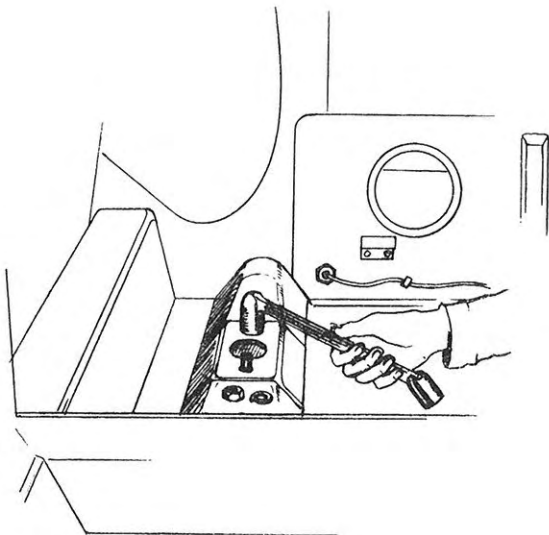

Fig. 28. Side link body attachment
10. Disconnect side link attachment from body. The nuts are accessible inside the car under the rear seat. See Fig. 28.